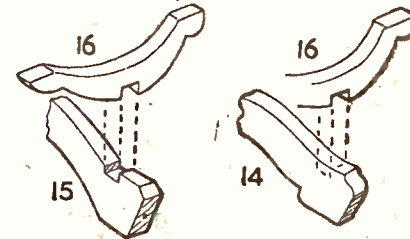

Fig. 5—The springs
Proceed now by cutting out the rear springs (16) and rear axle (14). These can be assembled (see Fig. 5) and glued and pinned to the body. The position of the springs is clearly shown on piece 1 on the design sheet.